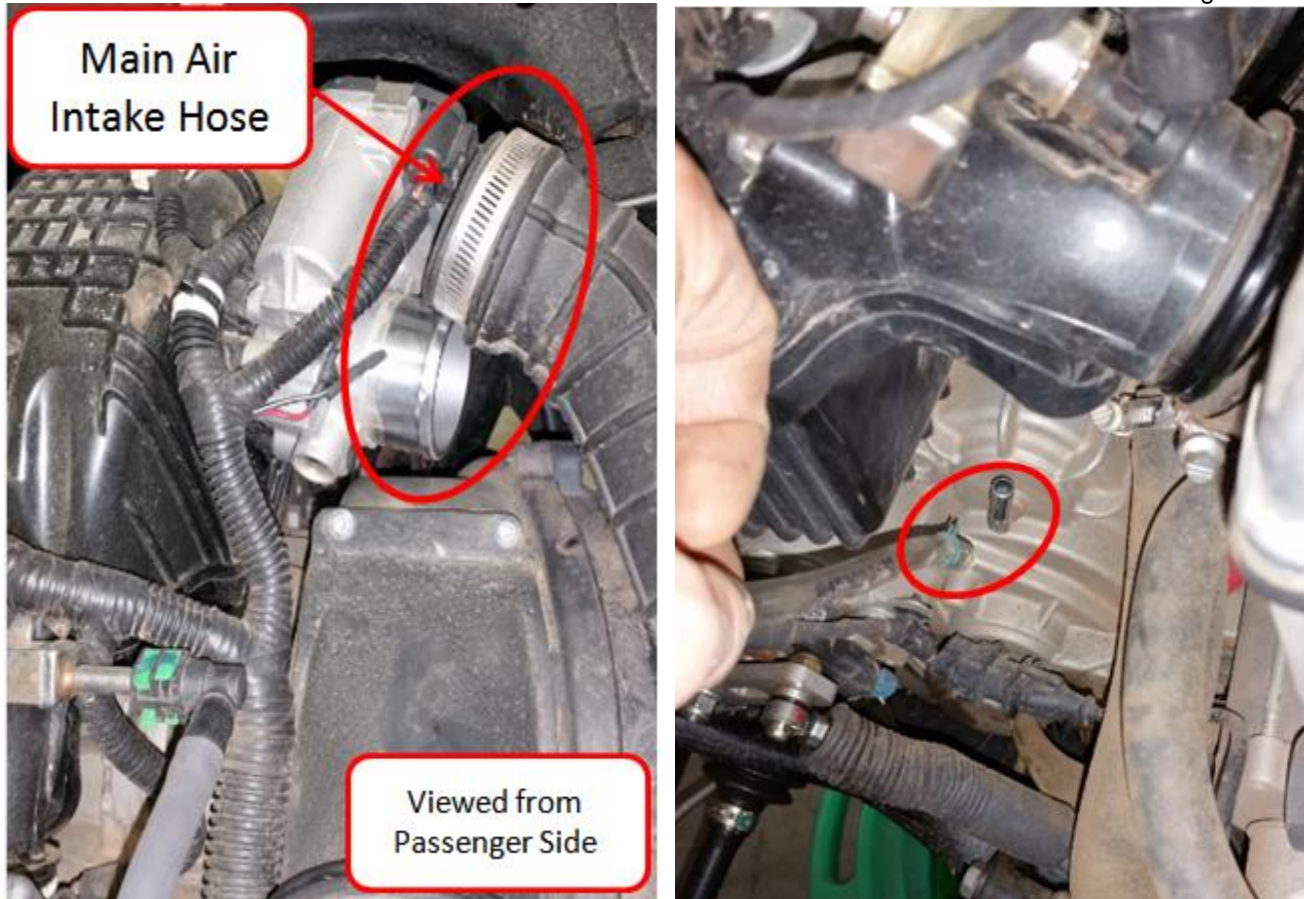

Figure 1
2. Remove the main air intake hose from the air manifold and set it aside as shown below left in Figure 1.
3. Remove the clear plastic hose located below the intake manifolds as shown above right in Figure 1.